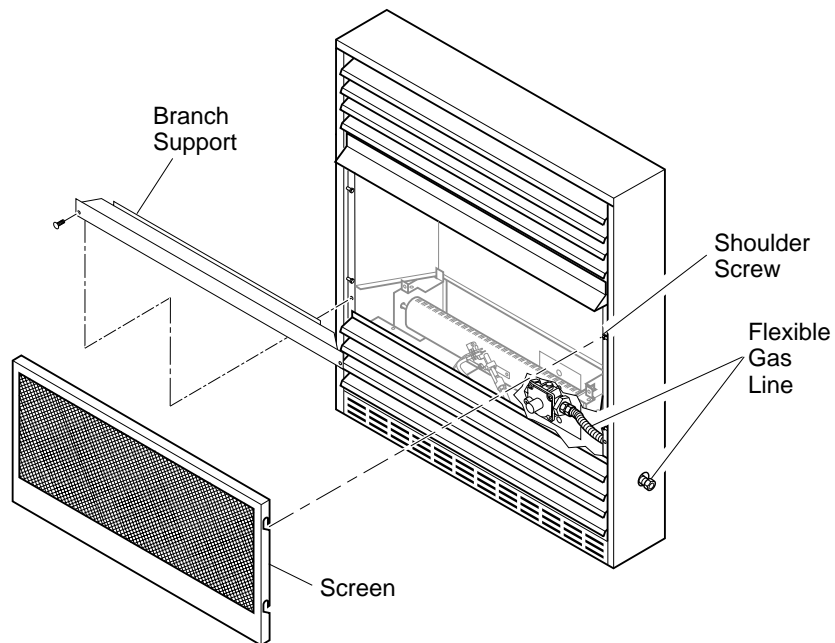

Figure 25 - Removing Branch Support From Fireplace
2. Remove screws that attach branch support to fireplace (see Figure 25). Carefully lift up branch support and remove from fireplace (see Figure 25).
NOTICE: Most building codes do not permit concealed gas connections. A flexible gas line is provided to allow accessibility from the fireplace (see Figure 25). The flexible gas supply line connection to the equipment shutoff valve should be accessible.